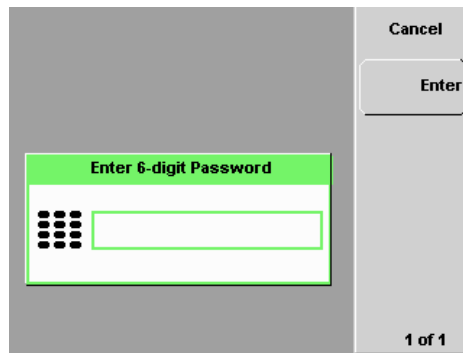

Figure 2-53 Enter password to restore display
- 9 After screen is blanked, pressing of any keys on the front panel will prompt you to enter password to restore the display (see Figure 2-53). You are allowed up to three attempts of password entry.